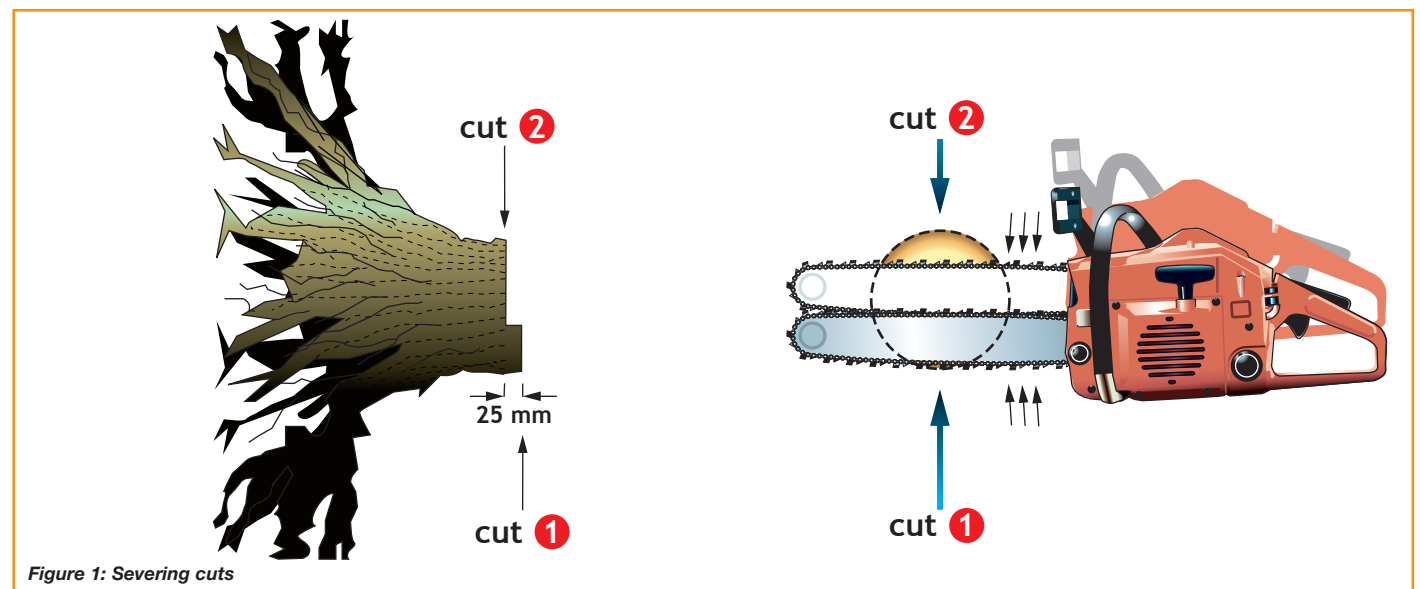

Figure 1: Severing cuts
- ❑ 22 When there is a danger that the stem may spring upwards, make the final severing cut into the tension wood at least 25 mm away from the first (compression) cut and into the part of the stem that is least likely to move (see *Figure 1*). A series of cuts may be made on the compression side to relieve excessive tension in the stem.